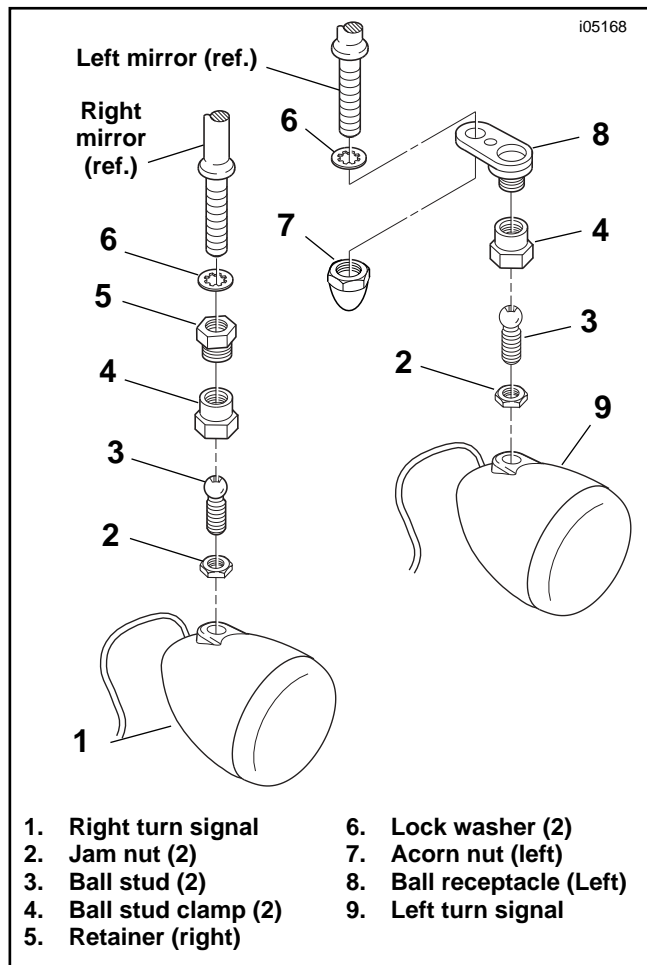

Figure 1. Original Turn Signal Brackets
1. See Figure 1. Using 5/8" and 1/2" wrenches, hold the right-side ball stud clamp (4) and loosen the jam nut (2).
2. Hold the retainer (5) with the 5/8" wrench, and unscrew and discard the ball stud clamp.
3. Unscrew the ball stud (3) and jam nut from the right-side turn signal (1) housing. Discard the jam nut, but set the ball stud aside for re-use.
4. Unscrew the retainer from the mirror stem. Discard the retainer and lock washer (6).
1. See Figure 1. Using 5/8" and 1/2" wrenches, hold the left-side ball stud clamp (4) and loosen the jam nut (2).
2. Unscrew the ball stud clamp from the left-side ball receptacle (8) and discard.
3. Unscrew the ball stud (3) and jam nut from the left-side turn signal (9) housing. Discard the jam nut, but set the ball stud aside for re-use.
4. Unscrew the acorn nut (7) from the mirror stem. Set the acorn nut aside for re-use, but discard the ball receptacle and lock washer (6).